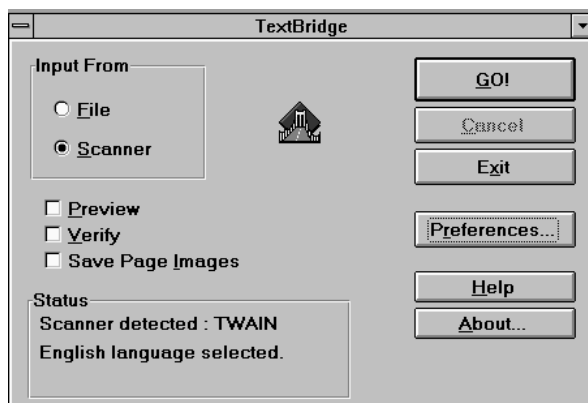

Figure 14: TextBridge 3.0 OCR for Windows 3.1x
1. Start 'TextBridge' by double-clicking the icon. A screen such as in figure 14 appears.